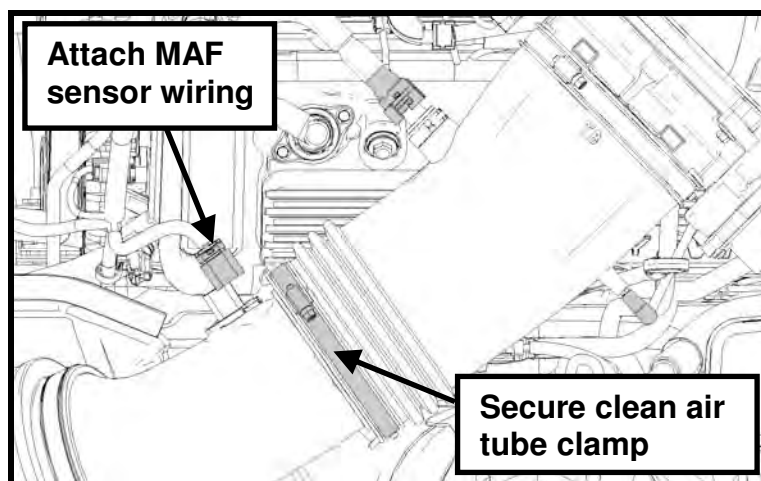

Fig. 12
STEP 9: Install the stock rubber clean air tube onto the new clean air tube. Tighten the worm drive clamp and torque to 3 Nm (26 lb in). Re-install the MAF electrical connector onto the MAF sensor (See Fig. 12).